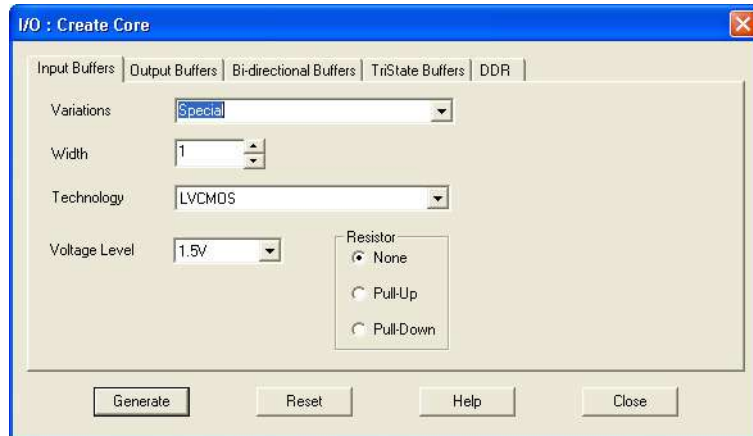

Figure 9-3 • I/O Create Core Window
3. Double-click I/O to open the Create Core window, which is shown in Figure 9-3.
As seen in Figure 9-3, there are five tabs to configure the I/O macro: Input Buffers, Output Buffers, Bidirectional Buffers, Tristate Buffers, and DDR.
The **Special** variation has Width, Technology, Voltage Level, and Resistor Pull-Up/-Down options (see Figure 9-3). All the I/O standards and supply voltages (V_{CC1}) supported for the device family are available for selection.